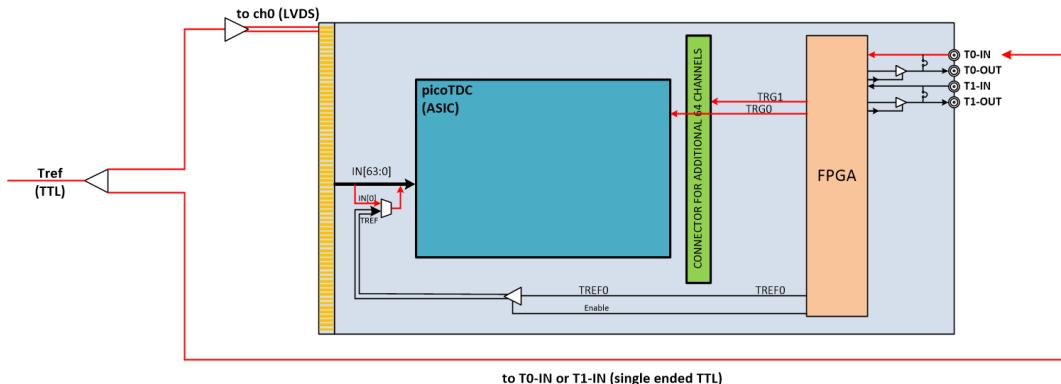

Fig. 9.2: Simplified block diagram of the Tref and trigger connections in case the Tref signal is duplicated outside the board.
1. duplicated outside the board, then fed to the T0-IN or T1-IN connectors (as single ended TTL or NIM) for the trigger signal, and to one of the input channels (as differential LVDS) for the time reference signal. See **Fig. 9.2**.